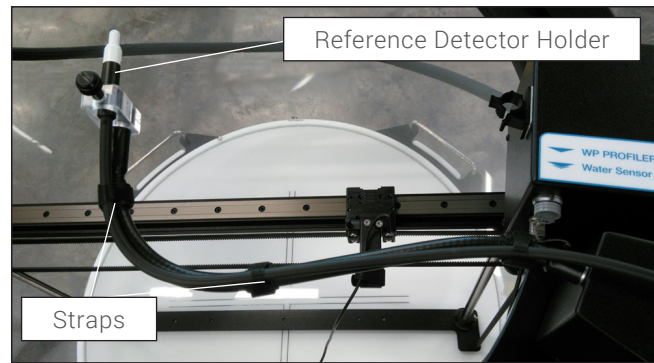

Fig. 4: Reference Detector installed
- i. Insert the detector into the reference detector holder, as illustrated in Fig 4.
To prevent collision, a couch position label on the CPP provides the coordinates (LAT, LNG, and VRT) recommended when moving the couch and 3D SCANNER into the Halcyon bore. Move the couch to the position indicated on the label. (See Fig. 4.)